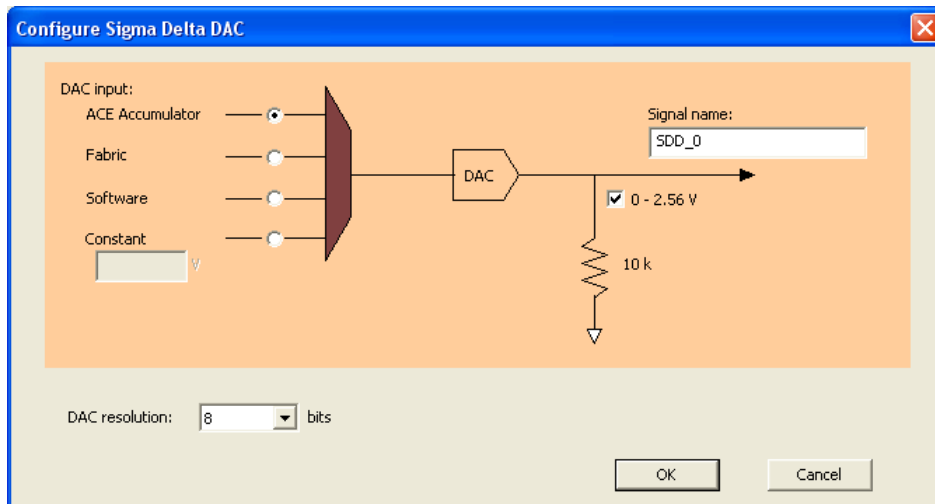
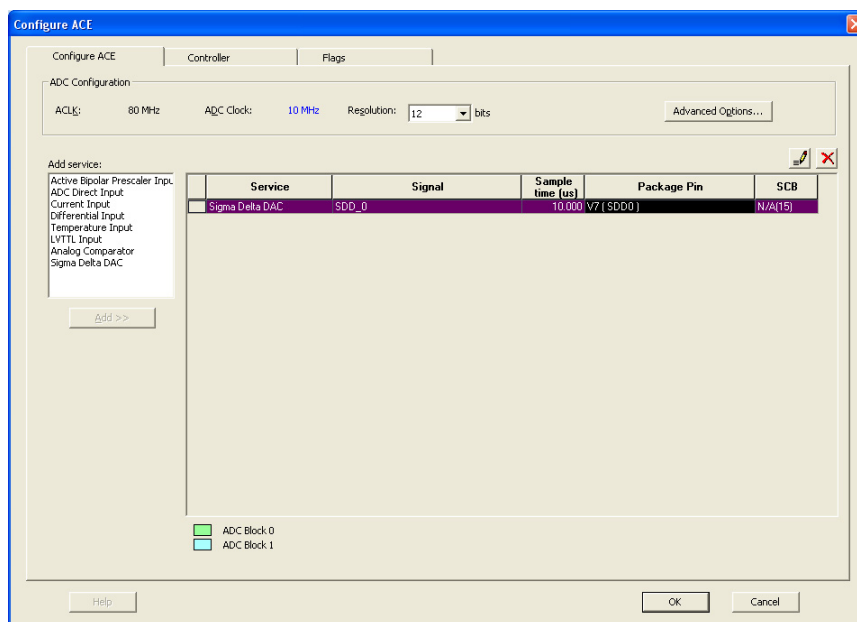

Figure 3 • Configure Sigma Delta DAC
Figure 4 • Configure ACE Window after DAC Configuration
3. Enable and configure sigma-delta DAC in the MSS ACE configurator. Figure 3 and Figure 4 on page 6 show the sigma-delta DAC and ACE configuration windows.